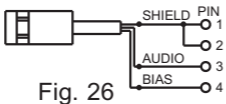

Fig. 26
2. 3-wire electret condenser microphone capsule connection, Fig. 26.